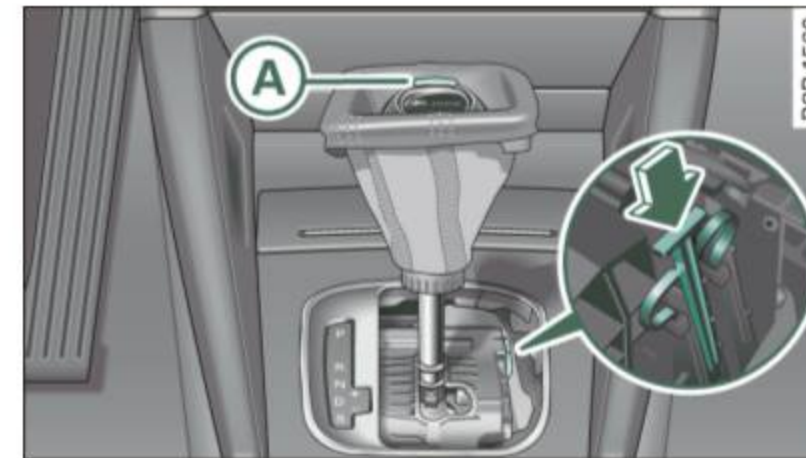

Fig. 121 Selector lever: emergency release from the Park position
- Press the yellow release lever in the direction of the arrow ⇒ *page 121*, fig. 121 and hold it in that position.